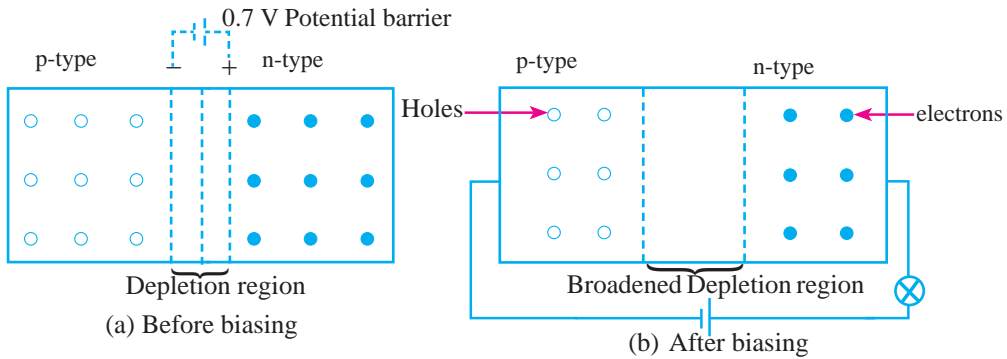

Figure 11.8 – Reverse biased p-n junction
- Next, disconnect only the battery and reconnect the battery as shown in Figure 11.8.
In this case, the free electrons in the n-region are attracted towards the positive potential while the holes are attracted towards the negative potential, broadening the depletion layer. There is no carrier (charge) flow across the junction. Only the depletion region broadens depending on the potential difference of the external source. Since there is no charge flow, connecting the external potential in this manner is known as **reverse bias**. Figure 11.8(a) and (b) shows how the depletion layer behaves when it is reverse biased.